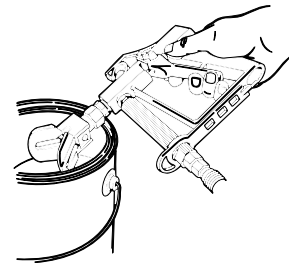

Figure 41 - Cleaning Bucket
20. Remove large suction tube from inlet valve, See Figure 42 and point gun into cleaning bucket, See Figure 41. Reduce pressure about 1/2, unlock gun, trigger gun until hose is pumped dry.